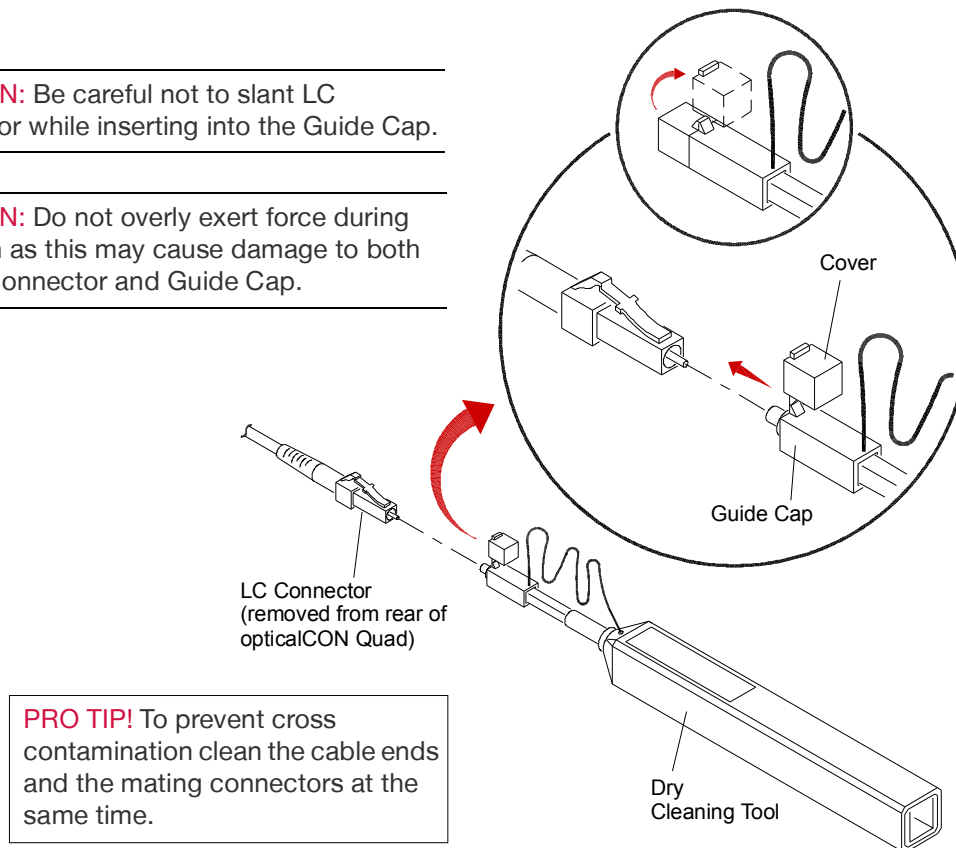

Figure 29: Quad Chassis Connector Cleaning (Field)
- Step 2. Open cover of Guide Cap (**Figure 29**).
- Step 3. Insert LC connector into Guide Cap while observing cautions as shown in **Figure 29**.